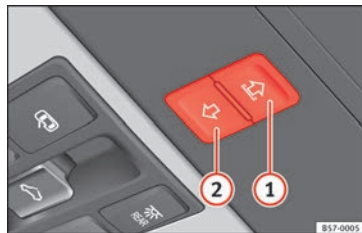

Fig. 135 On the interior roof lining: switches for the sun blind.
Buttons **»» Fig. 135 ① and ②** have two levels. The first level opens or closes the sun blind fully or partially.
- *Sun blind*: within approx. 5 seconds of having activated the anti-trap function, press button **»» Fig. 135 ②** until the sun blind closes completely.